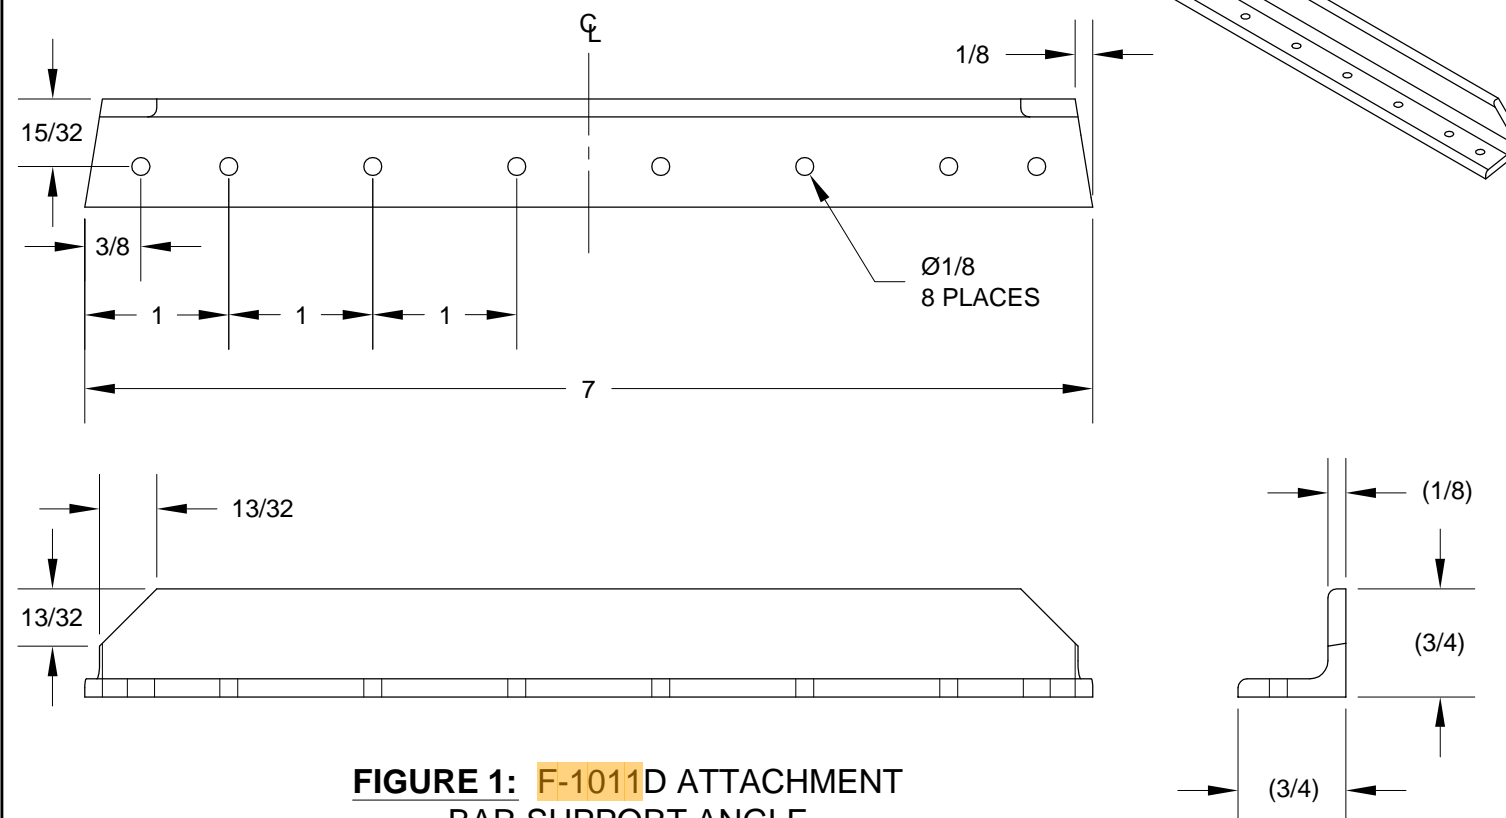

FIGURE 1: F-1011D ATTACHMENT BAR SUPPORT ANGLE
Step 1: Make the **F-1011D** Horizontal Stabilizer Attachment Bar Support Angle from a length of AA6-125X3/4X3/4 angle using the dimensions in Figure 1. The part is symmetrical about the center-line.